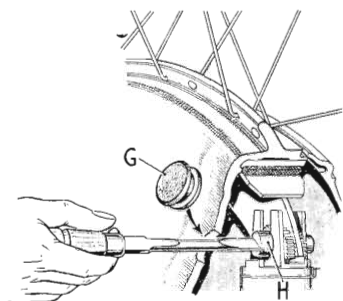

FIGURE 25.
Slacken off the cable adjuster at the handlebar lever and remove the grommet (G) Fig. 25, from the hub shell. Rotate the wheel until the aperture is opposite to the adjuster screw (H) and apply a screwdriver to the head of the screw. The adjuster turns in a series of "clicks" and must be rotated in a clockwise direction until it cannot be turned any further, when the shoe will be fully expanded against the drum. Now unscrew the adjuster until the wheel is free to rotate and the shoe is just clear of the drum. Turn the wheel through half a revolution and repeat the adjustment on the remaining shoe. Check that the wheel revolves freely.